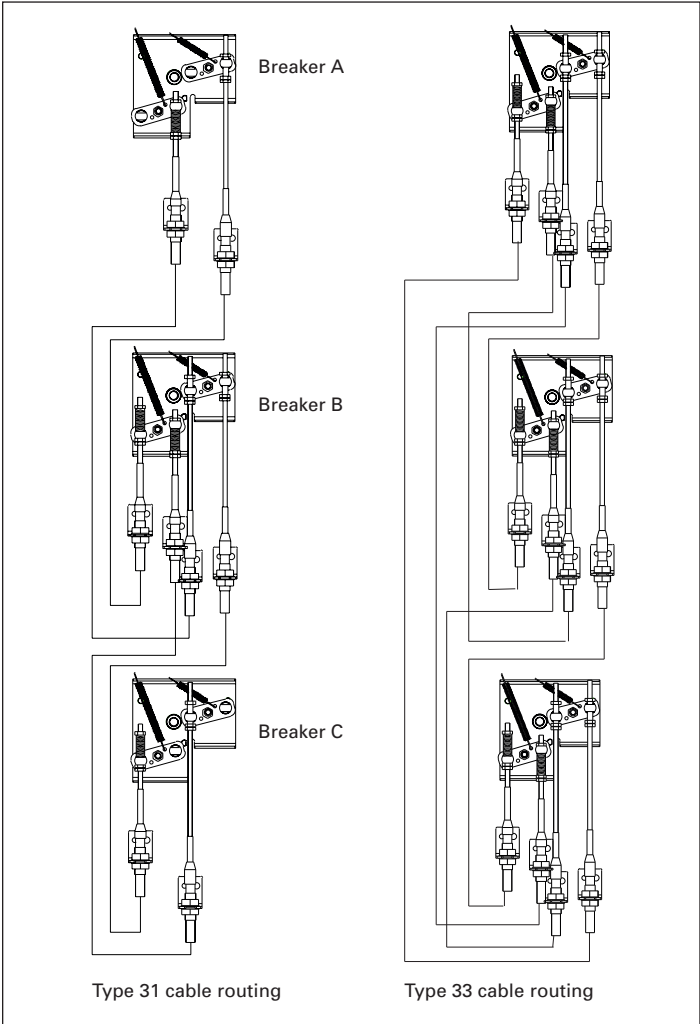

Figure 1. Cable routing for Type 31 and 33 interlock configurations
This information leaflet (IL) provides detailed installation instructions for installing and interconnecting one fixed Type NF frame breaker to another type of low voltage circuit breaker (LVCB) in any position (see A, B, C in **Table 1**) for a Type 31 or Type 33 interlock configuration as shown in **Figure 1**. When purchasing kits for a Type 31 or Type 33 interlock configuration setup, additional interlock kits (the types of interlock kits and the other breakers on which they can be installed that are compatible with this kit are listed in **Table 2**) are required for the other two breakers as well as the interconnecting cable kits (two or three are required depending on whether a Type 31 or Type 33 interlock configuration is desired, respectively).